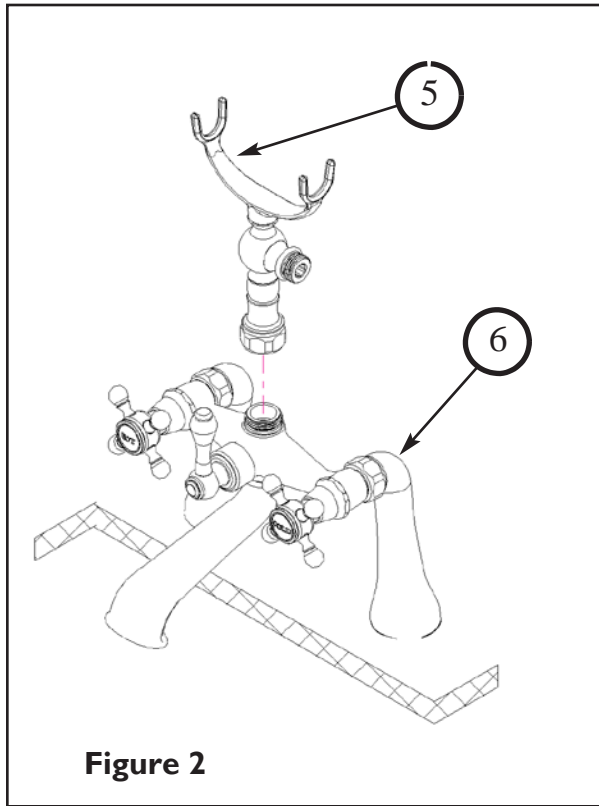

Figure 2
2. Thread hand shower RISER (5) to faucet BODY (6). See Figure 2.